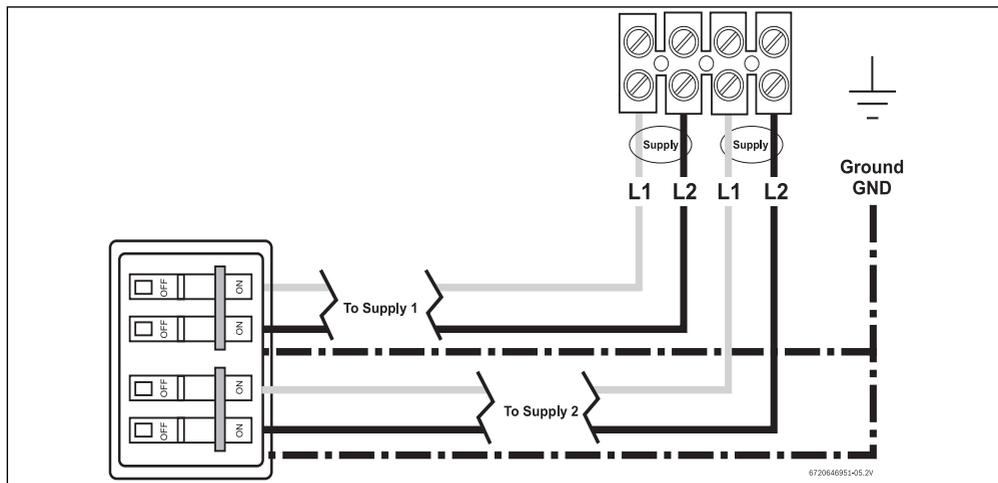
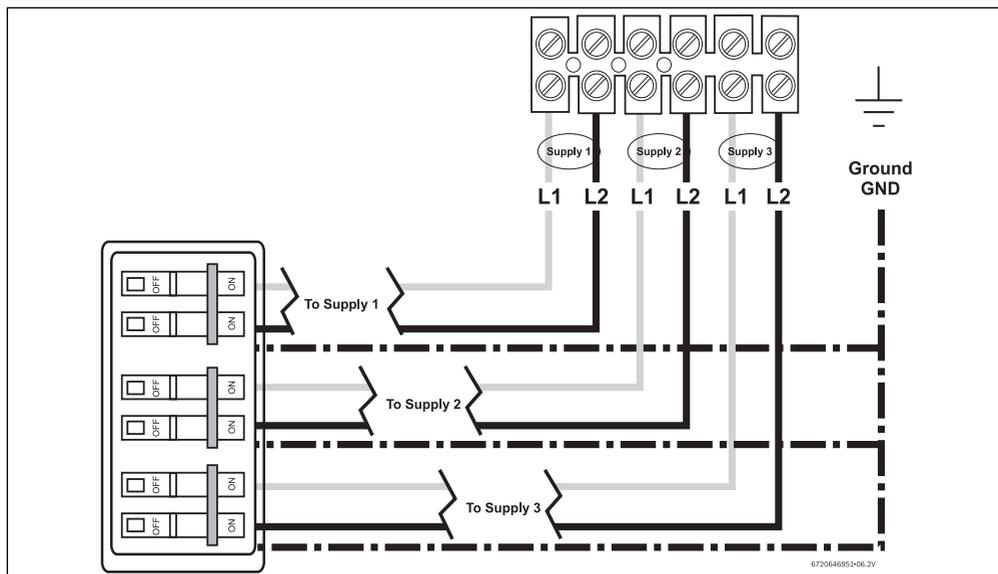

Fig. 7 WH17 terminal block connection (U.S.A. only)
Fig. 8 WH27 terminal block connection (U.S.A. only)
- Strip back the insulation on the power wires about $\frac{1}{2}$ inch. Connect the live wires to the terminals marked "L1" and "L2." There are two pairs of live wires in the WH17 and three pairs of live wires in the WH27. (→ See Fig. 7 and Fig. 8, page 13).
- Any insulation on the ground wires should be stripped back about $\frac{3}{8}$ inch. The ground leads must be connected to the pillar terminal marked "GR". (→ See Fig. 7 and Fig. 8, page 13).